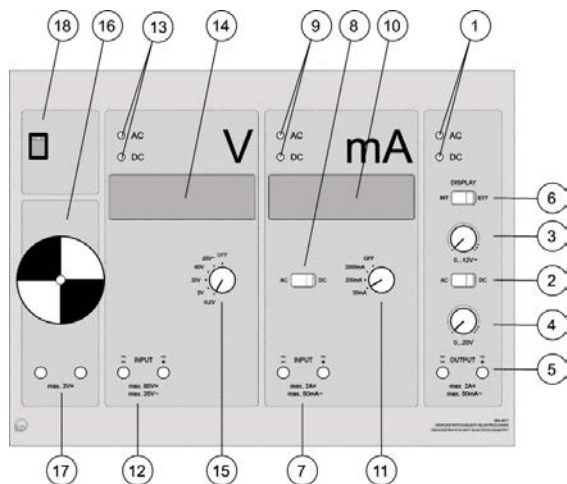

Fig. 3: Sketch of the demonstration unit.
On the demonstration unit switch the selector switch (6) to external power supply. Switch the changeover switch (8) on the display to DC power. Adjust the rotary switch (15) according to the measurement (see Fig. 3).
Connect the two electrodes of the cell to the input (12) of the voltmeter using two connecting leads with crocodile clips. Also connect the connections (7) on the amperemeter. Adjust the selector switch (11) (200 mA is sufficient). Connect the copper electrode to the load element (resistance module) as shown in Figure 3. Connect the load element to the amperemeter through connection (7) (see Fig. 3 and 4).